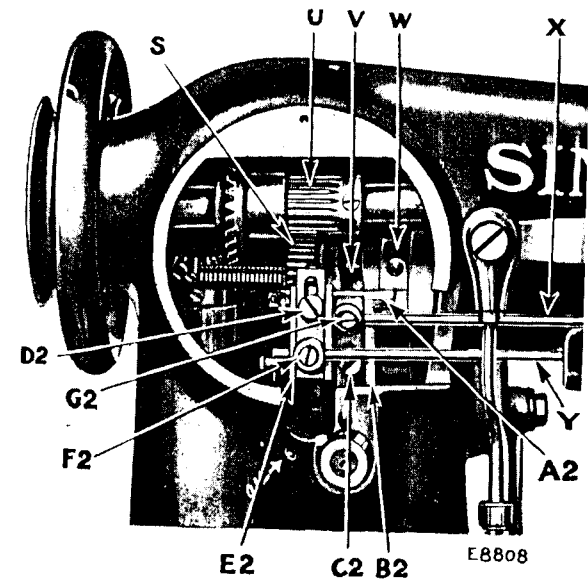
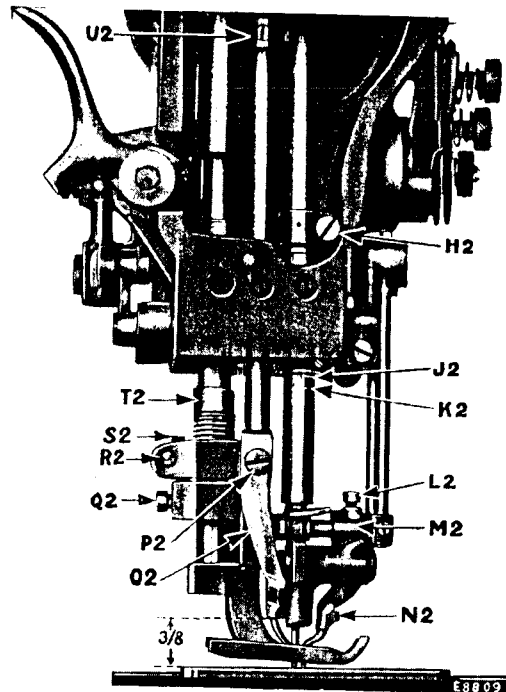
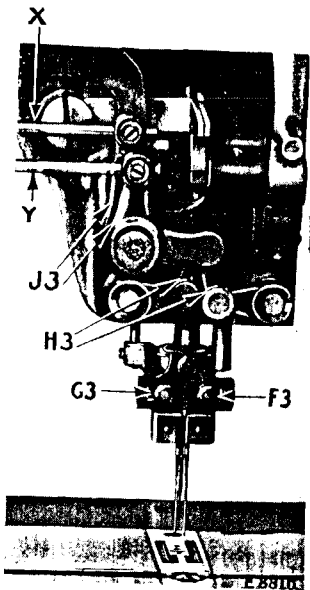
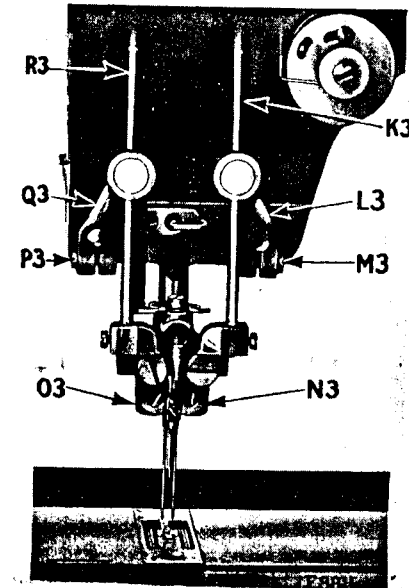

Fig. 15. Showing Timing Finger at Back of Machine For Timing Cams (S, V and W)
Fig. 16. Showing Upper Timing Mark on Needle Bar Centred with Lower End of Needle Bar Bushing at (J2)
Fig. 19. Needle Vibrating Mechanism at Back of the Machine
Fig. 20. Needle Vibrating Mechanism at Front of the Machine
Loosen the set screw (N2, Fig. 16) and put the auxiliary piercer up into the holder as far as it will go, then securely tighten the set screw (N2).
As the function of the auxiliary piercer is to open the fabric in advance of the piercer, it must be adjusted according to the length of stitch which is being made, so that the advance perforations made by it will be correctly entered by the piercer and needles. To make this adjustment, loosen the screw (L2, Fig. 16) and move the auxiliary piercer holder (M2, Fig. 16) forward or backward, as required, then securely tighten the screw (L2).
To determine whether the feed lifting cam and gear (S, Fig. 15), needle vibrating cam (V, Fig. 15) and feed driving
cam (W, Fig. 15) are correctly timed, raise the round cover plate at the rear of the machine. Turn the balance wheel over toward you until the needle bar is on its upward stroke, after having completed the stitch on the hem, and the lower timing mark (K2, Fig. 16) on the needle bar is just visible at the lower end of the needle bar bushing. When the needle bar is in this position, the horizontal marks on the needle vibrating cam (V) and feed driving cam (W) and the line on the side of the ground-off tooth of the feed lifting cam and gear (S) should be in line with each other and register at the top end of the needle vibrating lever (A2, Fig. 15). A slight deviation may then be made to obtain the results desired.
In case the cams (S, V and W) are in time with each other, but not in time with the needle bar, loosen the two set screws in the small gear (U, Fig. 15) and turn the feed lifting cam and gear (S) until the lines on the cams (V and W) register with the end of the timing finger (A2), then tighten the two set screws. When making this adjustment, be sure to have the lower timing mark (K2, Fig. 16) on the needle bar just visible at the lower end of the needle bar bushing, when the needle bar is on its upward stroke after having completed the stitch on the hem.
Turn the balance wheel over toward you until the needle bar moves down to its lowest point. When the needle bar is in this position, the upper timing mark (J2, Fig. 16) on the needle bar should be just visible at the lower end of the needle bar bushing.
In case the needle bar is not set at the correct height, loosen the pinch screw (H2, Fig. 16) in the needle bar connecting stud and move the needle bar up or down until it is at the correct height, as instructed above, then firmly tighten the screw (H2) in the needle bar connecting stud.
To determine whether the hooks are correctly timed, turn the balance wheel over toward you until the lower timing mark (K2, Fig. 16) on the needle bar is just visible at the lower end of the needle bar bushing, when the needle bar is on its upward stroke. When the needle bar is in this position, the points of the hooks should be at the centre of the needles.
The needle vibrating mechanism is operated by the gear (U, Fig. 15) which drives the needle vibrating cam (V, Fig. 15) which in turn actuates the needle vibrating lever to which are attached the connections (B2 and E2, Fig. 15). The vibrating motion is transmitted from the needle vibrating lever to the needle holders (N3 and O3, Fig. 20) by means of the connections (B2 and E2, Fig. 15), the pitmans (X and Y, Fig. 19), the bell cranks (J3, Fig. 19), the links (I13, Fig. 19), the cranks (L3 and Q3, Fig. 20) and the rods (K3 and R3, Fig. 20), causing the spreading and drawing in action of the needles.
On the outside vibration of the needles, the pitmans (X and Y, Fig. 19) draw the needle vibrating rods (K3 and R3, Fig. 20) toward each other, by their connection with the needle holders (N3 and O3, Fig. 20). On the inside vibration of the needles, the pitmans (X and Y) spread the needle vibrating rods (K3 and R3).
As the needle vibrating pitmans (X and Y, Fig. 15) are independently mounted, they must be separately adjusted.
The lower pitman (Y, Fig. 15) controls the vibrations of the left or outside needle. To make the left needle vibrate farther to the left over the edge of the material, loosen the screw (F2, Fig. 15) and lengthen the lower pitman (Y), then securely tighten the screw (F2).
The upper pitman (X, Fig. 15) controls the vibrations of the right or inside needle. To make the inside needle vibrate farther to the right over the edge of the material, loosen the screw (G2, Fig. 15) and lengthen the upper pitman (X), then securely tighten the screw (G2).
Either needle can be set closer to or farther from the other by loosening the nuts (F3 and G3, Fig. 19) and moving the needle holders (N3 and O3, Fig. 20) as required, then securely tighten the nuts (F3 and G3).
The width of bight or extent of the lateral vibration of the needles is regulated by raising or lowering the needle vibrating connections (B2 and E2, Fig. 15) which are fastened by the screws (C2 and D2, Fig. 15).
When the needles are on their descending inside vibration, the points of the needles should be properly housed in the grooves of the piercer. If the points of the needles appear outside of the grooves of the piercer on the descending inside vibration, a very fine adjustment may be made by loosening the two screws (M3 and P3, Fig. 20) and swinging the needle vibrating cranks (L3 and Q3, Fig. 20) to the right or left, as may be required, after which securely tighten the two screws (M3 and P3).
When the piercer bar is at its lowest point, the bottom end of the piercer holder (O2, Fig. 16) should be $\frac{3}{8}$ inch above the throat plate, as shown in Fig. 16. The piercer bar can be set at the required height after loosening the set screws shown at U2 in Fig. 16. The piercer must not enter the fabric before the feed dog finishes its forward movement, otherwise clear openings cannot be made.
To set the outside foot plate lower than the inside foot plate, loosen the pinch screw (R2, Fig. 16) and turn the upright screw (S2, Fig. 16) outwardly, then tighten the pinch screw (R2). The pressure of the foot plate on the material should be only heavy enough to enable the feed to move the work along evenly regardless of variations in the thickness of the fabric to be hemstitched.
To increase the pressure of the outside foot plate on the material, loosen the set screw in the collar (T2, Fig. 16) and lower the collar to compress the spring, then tighten the set screw. For less pressure, raise the collar.